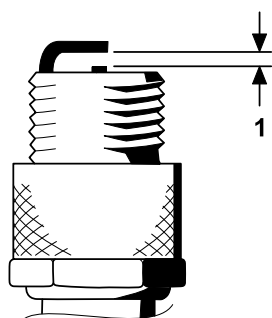

Figure 31
4. Set the air gap between the center and side of the electrodes at 0.76 mm (0.030 inches) as shown in Figure 31.